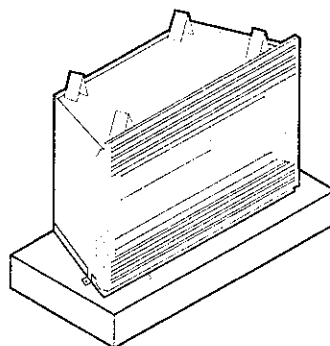

Figure 16
Step 6. Position Heater – Place the heater in desired location. It may be helpful to temporarily assemble the surround around the appliance to properly locate the unit. Refer to Figure 16 for floor and platform installations. If the heater is to be installed into a framed wall refer to the built-in assembly steps beginning on page 4.